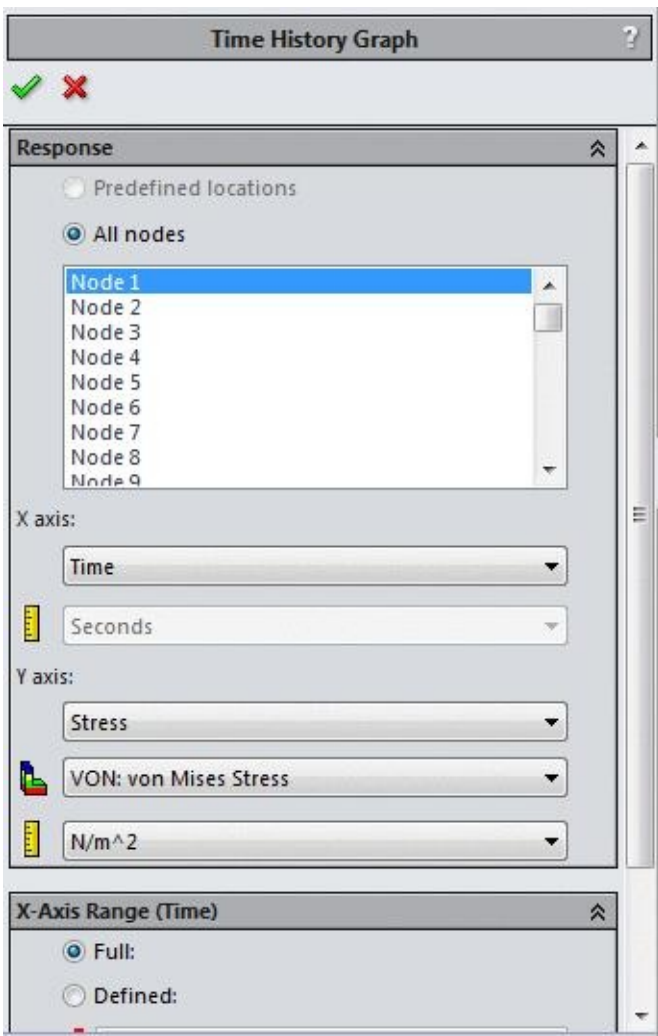
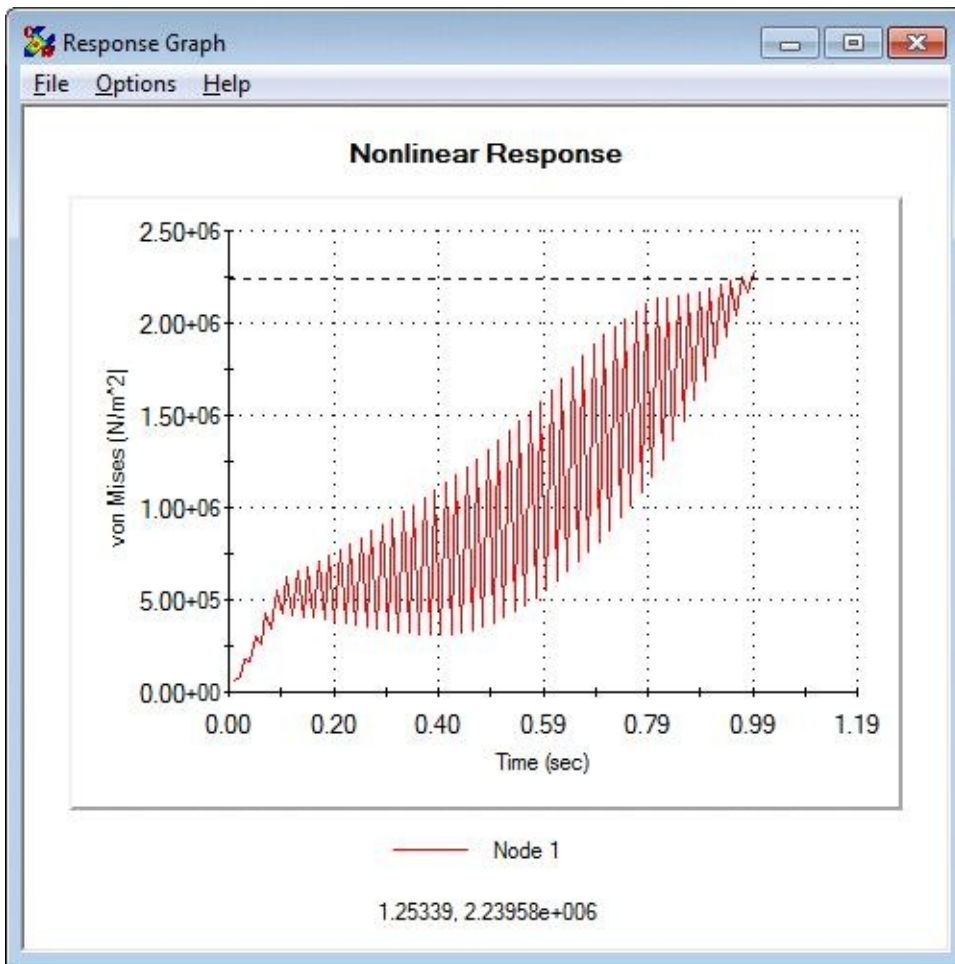

Figure-26. Time History Graph PropertyManager
Figure-27. Response Graph
- Click on the **Define Time History Plot** option from the shortcut menu. The **Time History Graph PropertyManager** will be displayed; refer to Figure-26.
- Make sure that **Time** is selected in the **X axis** drop-down and **Stress** is selected in the **Y axis** drop-down as shown in Figure-26.
- Click on the **OK** button from the **PropertyManager**. The **Response Graph** will be displayed; refer to Figure-27. Note that this is the response graph of node 1 which was selected in the **Time History Graph PropertyManager** earlier; refer to previous figure (Figure-26).